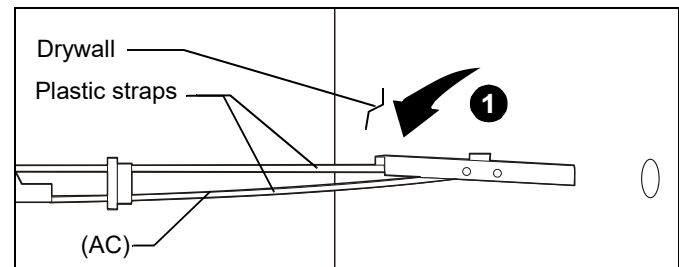

Figure 18
1. Hold metal channel on anchor (AC) flat alongside plastic straps and slide channel through hole. (See Figure 18)